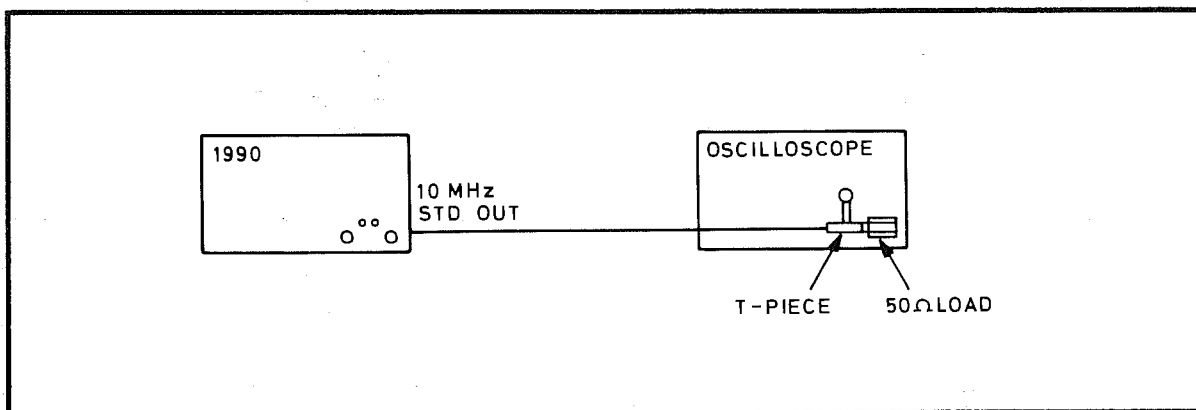

Fig 7.27 Connections for 10 MHz Standard Output Level PVP
- 70 (1) Connect the test equipment as shown in Fig 7.27.
- (2) Verify that the peak-to-peak amplitude of the displayed waveform is $1.0 \text{ V} \pm 0.4 \text{ V}$. Verify that the mark/space ratio is between 30:70 and 70:30.
- (3) Disconnect the test equipment.